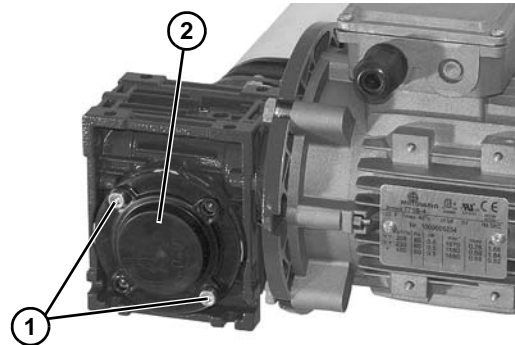

Figure 12
1. Remove two (2) screws (Figure 12, item 1) and remove drive shaft cover (Figure 12, item 2).
9. Install cover (**Figure 12, item 2**) and tighten two (2) screws (**Figure 12, item 1**) to 50 in-lbs (5.6 N-m).